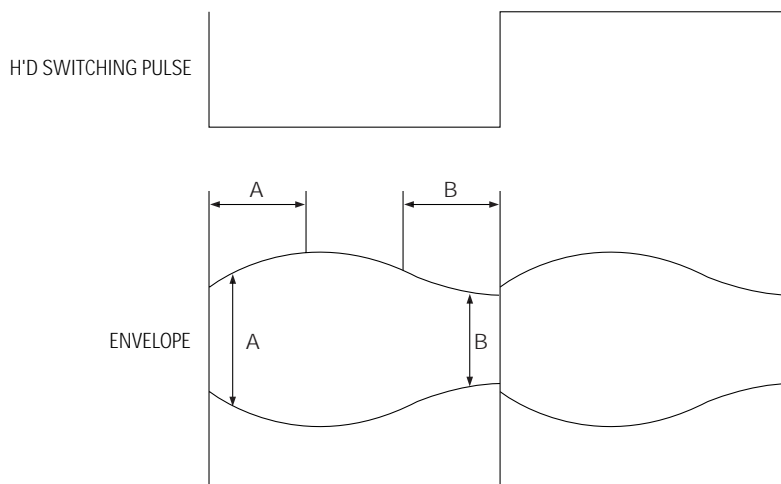

Fig. 6-12 Adjustment Points
- 4) If the section A in Fig. 6-12 does not meet the specification, adjust the guide roller S up or down.
- 5) If the section B in Fig. 6-12 does not meet the specification, adjust the guide roller T up or down.